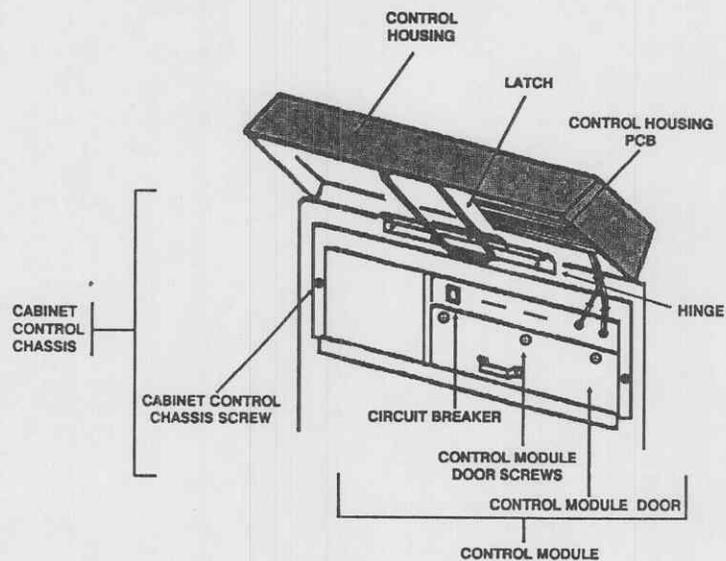
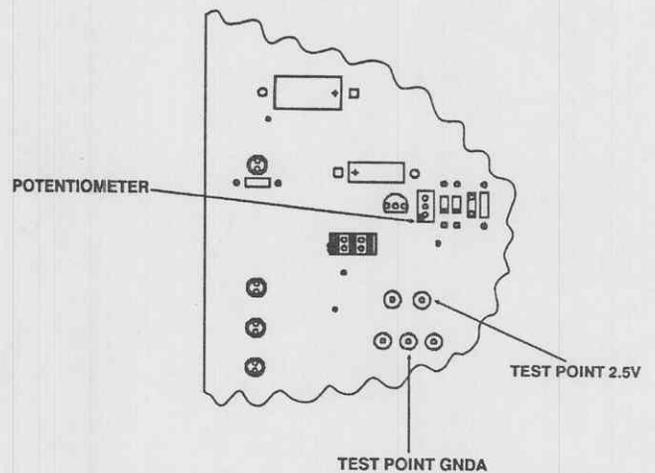

Figure 3-6. Cabinet control chassis (power supply).
Figure 3-9. Power supply (+2.5 VDC) adjustment.
3-15. Power supply voltage calibrations (fig 3-6 through fig 3-9).
f. Also on the PCB, adjust resistor "R17" ("2.5V ADJ") until the voltmeter indicates 2.500 VDC \pm 0.005 VDC. (Refer to fig 3-9.)
- (1) Close the control module door and replace the three screws.
- (2) Lift the control housing slightly upward to release the latch and then lower it.
- (3) Open the storage compartment door.
- (4) Twist the screw located in the lower right corner to lock the control housing.
- (5) Close the storage compartment door.